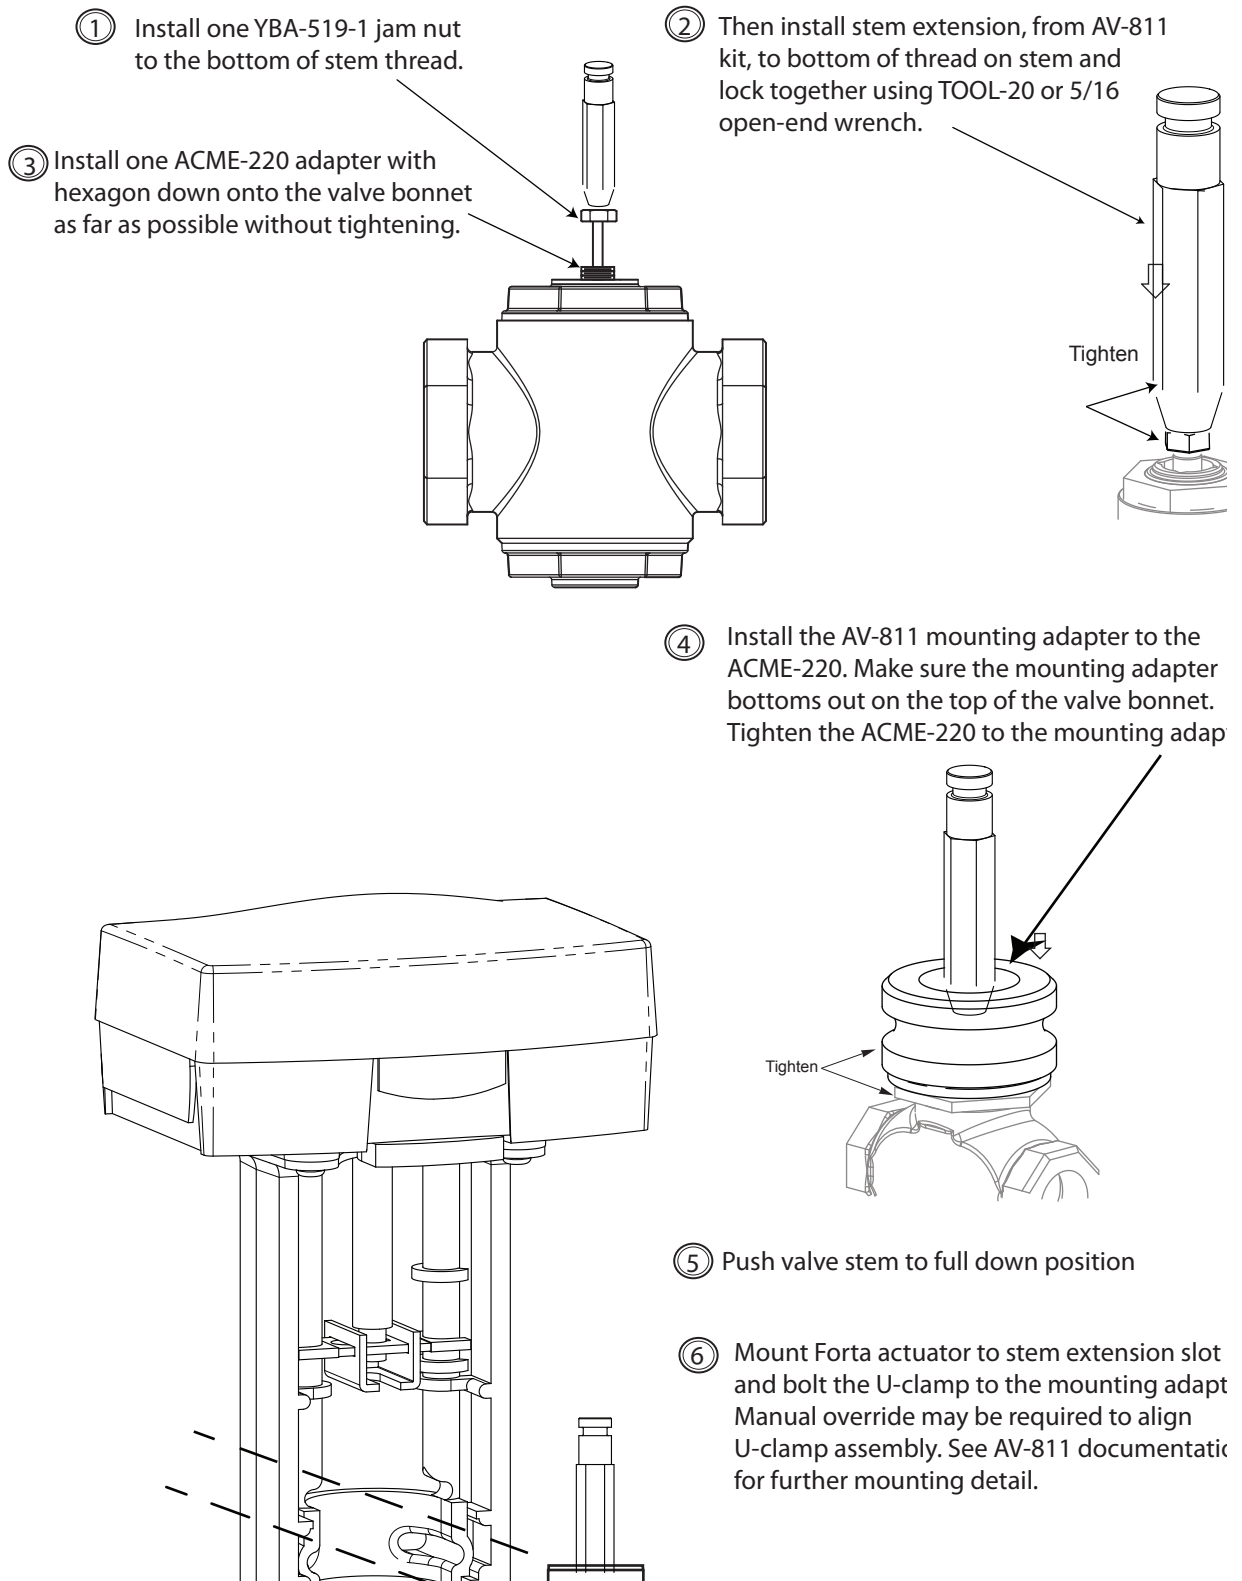

Figure-5 Assembling the Forta Actuator onto a Style B Valve Body.
2. Assemble the new linkage to the valve, according to Figure-5.